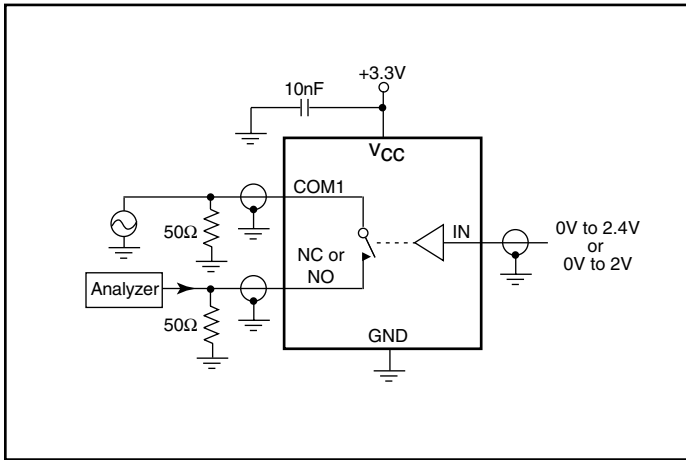

Figure 4. Off Isolation/On-Channel Bandwidth
- Off Isolation =  $20\log_{10} [ V_{COM} / (V_{NO} \text{ or } V_{NC}) ]$ . See Figure 4.